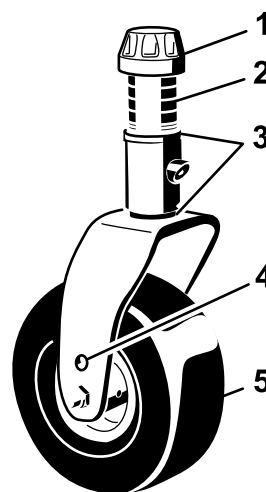

Figure 5
2. Position the caster wheel axles in the same holes in both caster forks. Refer to Figure 5 to determine the correct holes for the setting.
3. Remove the tensioning cap from the spindle shaft (Figure 5) and slide the spindle out of the caster arm. Put the 2 shims (1/8 inch) onto the spindle shaft as they were originally installed. These shims are required to achieve a level across the entire width of the cutting units. Slide